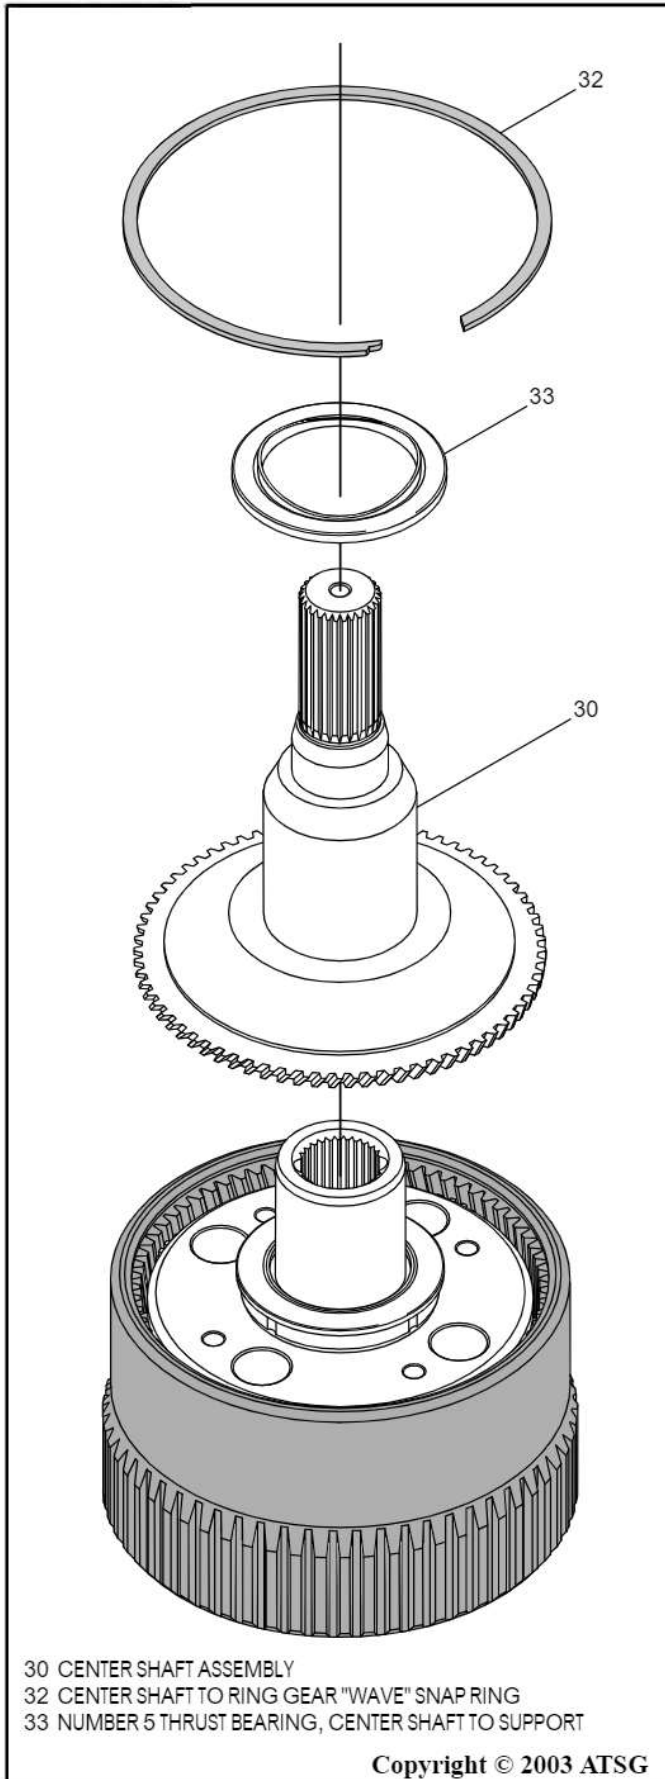

Figure 146
11. Install the overdrive center shaft onto overdrive planetary carrier, as shown in Figure 146.
12. Install the **wave** center shaft snap ring into the groove in ring gear, as shown in Figure 146.
13. Install the number 5 thrust bearing on overdrive center shaft, in direction shown in Figure 146, and retain with Trans-Jel®.